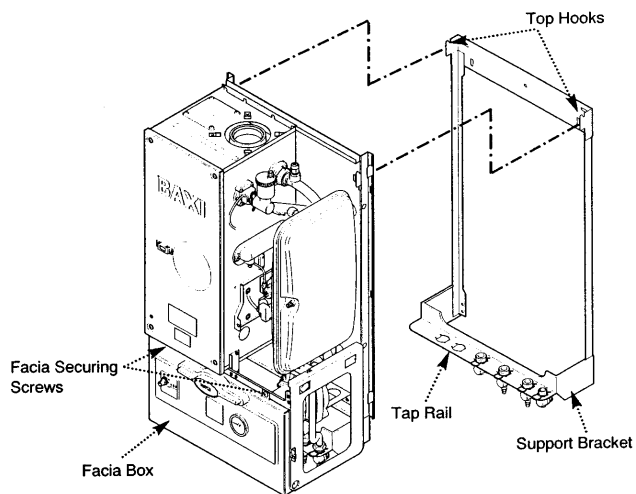

Fig. 24
8.4 Fitting The Boiler (Fig. 24)